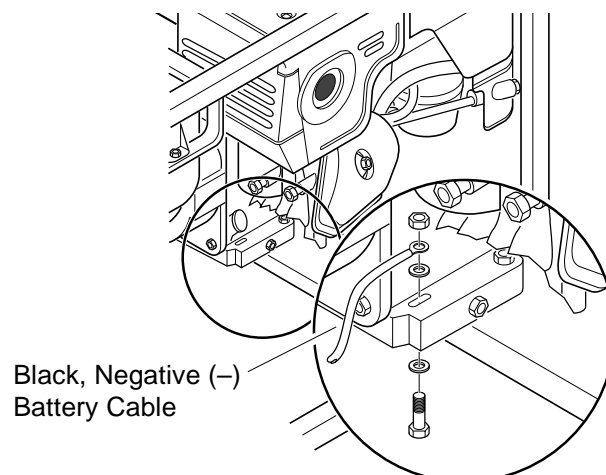

Figure 9 - Connecting Black, Negative (-) Battery Cable to Engine Block
2. Attach the black, negative (-) battery cable to the engine block. Use the bolt, nut, and two washers provided with the battery cables. Use long mounting hole on opposite side of engine from starter solenoid. Attach cable as shown in Figure 9.